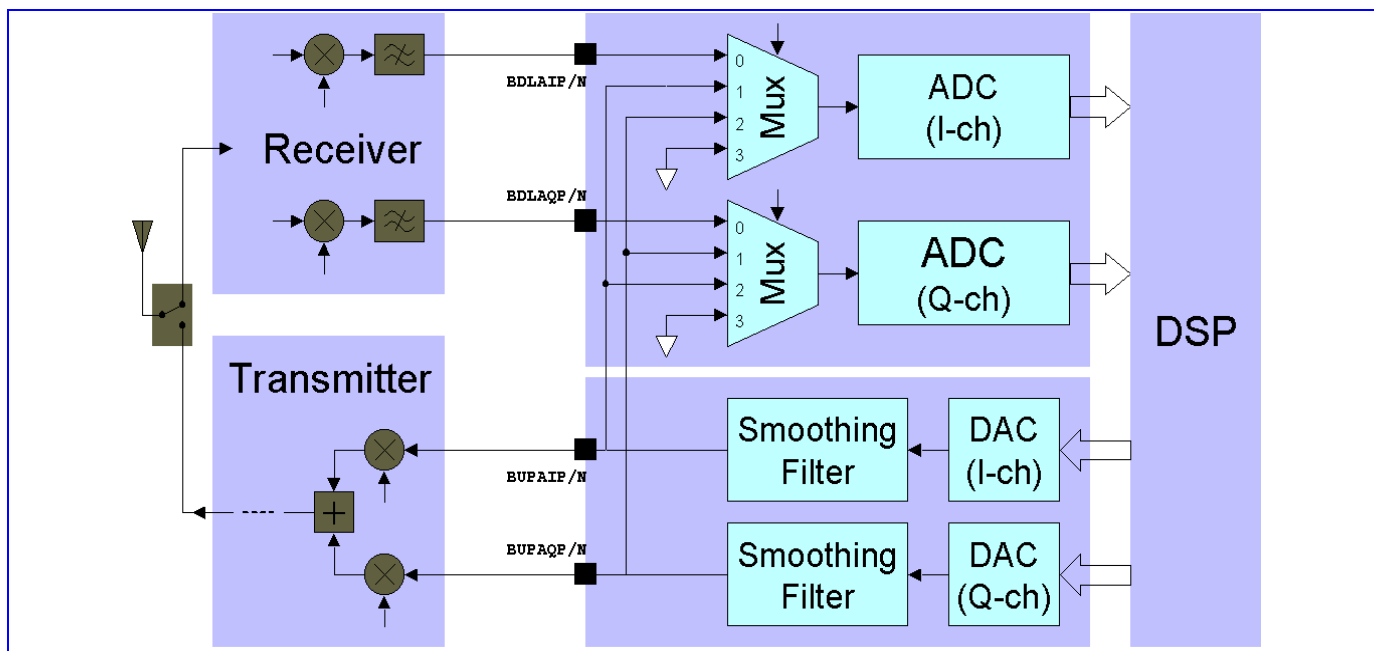

Figure 78 Base-band A/D and D/A Offset and Gain Calibration
The base-band downlink receiver (RX), together with the base-band uplink transmitter (TX) introduced in the next section, provides necessary analog hardware for DSP algorithm to correct the mismatch and offset error. The connection for measurement of both RX/TX mismatch and gain error is shown in **Figure 78**, and the corresponding calibration procedure is described below.